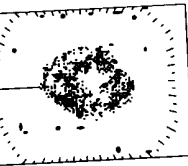

Figure 1-5 Dialog for automatic adjustment of gain
1. Press the [GAIN] key to display the screen shown in Figure 1-5.